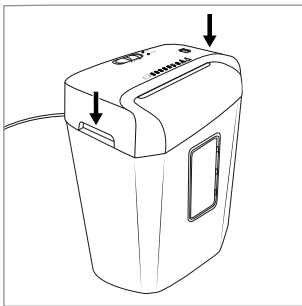

Fig. 1
- ◆ Hold the cutter attachment **5** by the two integrated carrying recesses **7** and position it over the large waste collector **10** so that the power cable **1** points backwards and the viewing window **9** in the large waste collector **10** points forwards (see fig. 1).